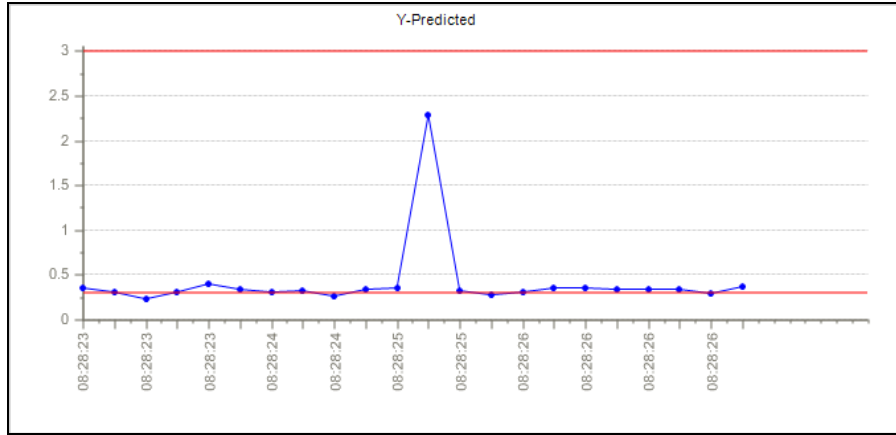

Figure 41 - Y-Predicted plot with upper and lower limits without deviations
1. *Y-Predicted plot without deviation:* This is a plot of the predicted Y values vs. sample identification (time) and is autoscaled for the Y-values. This plot shows the number of points set in the *Options* menu. Once this number of points has been exceeded, the plot scrolls by replacing the first result with the last one. See Figure 41 for an example of this plot.